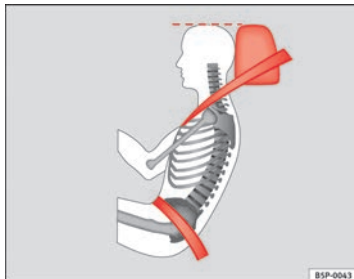

Fig. 13 Correct seat belt and head restraint positions, viewed from side
- The lap part of the seat belt must lie across the pelvis, never across the stomach. The seat belt must lie flat and snugly on the pelvis ⇒ Fig. 13. Pull the belt tight if necessary to take up any slack.